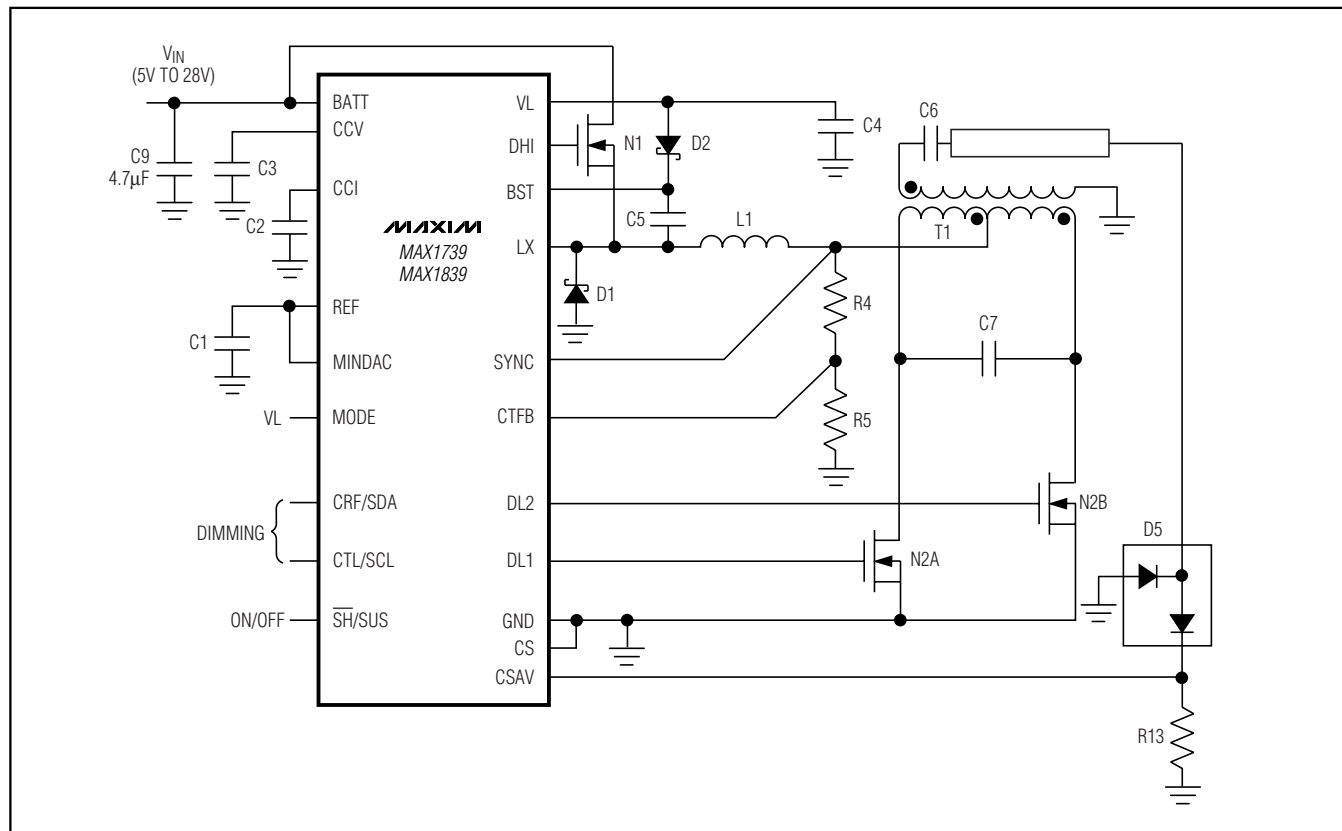

Figure 8. Standard Application Circuit
As shown in the standard application circuit (Figure 8), the MAX1739/MAX1839 regulate the current of a 4.5W CCFL. The IC's analog voltage interface sets the lamp brightness with a minimum 20:1 power adjustment range. This circuit operates from a wide supply-voltage range of 7V to 24V. Typical applications include notebook, desktop monitor, and car navigation displays.
Components T1, C6, C7, N2A, and N2B form the Royer oscillator. A Royer oscillator is a resonant tank circuit that oscillates at a frequency dependent on C7, the primary magnetizing inductance of T1 (LP), and the impedance seen by the T1 secondary. Figure 8 shows
through a signal-level Schottky diode to VL, and bypass it to LX with a 0.1µF ceramic capacitor. This circuit delivers the necessary power to drive N1 as shown in Figure 8. If a higher gate capacitance MOSFET is used, the size of the bypass capacitor must be increased. The current need at BST is as follows: